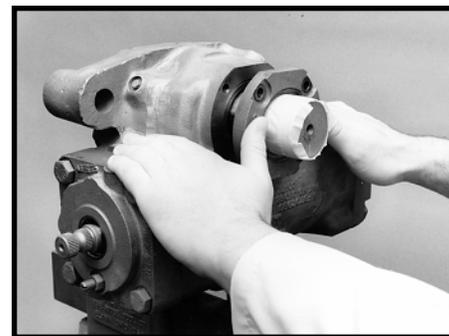
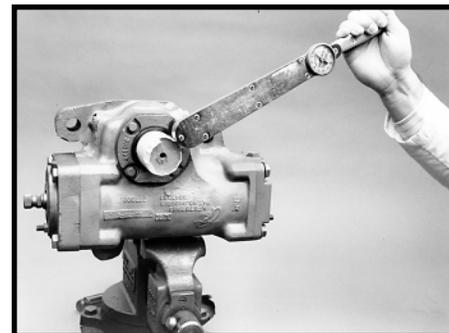

Figure 154
Figure 155
49. Grease the new trunnion cover seal ring (22) and install it into the trunnion cover seal ring groove.
50. Before installing the trunnion cover (25) and seal assembly onto the housing (19), visually inspect the housing bearing (20) to insure that all bearing rolls are properly in place. Then, install the trunnion cover. SEE FIGURE 154. Install four trunnion cover bolts (28) and washers (27) and torque the bolts to 15-22 ft. lbs. (20-30 N m) if dry or 11-16 ft. lbs. (15-22 N m) if lubricated. SEE FIGURE 155. A 1/2 inch socket required. Pack clean high temperature industrial grease per Ross specification 045231. \* Mobil Temp 1 or 2 grease or equivalent around the seal area of sector shaft (48). Install a new dirt and water seal (26) using a suitable blunt end drift.